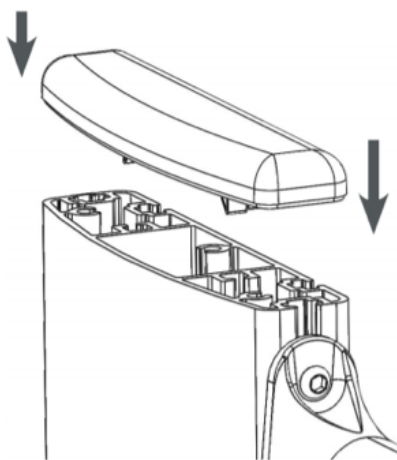

Figure 7 – Extrusion Cap Placement
2. Insert extrusion caps into top of extrusion rails by pressing into place. See Figure 7 below.